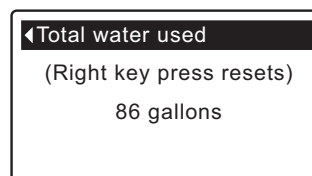

FIG. 69
6. The **Total water used** screen (See Figure 69) shows the volume of water used since it was last reset (it works like the trip odometer in a car). To reset the value to 0, press the RIGHT (►) button while this screen is displayed.